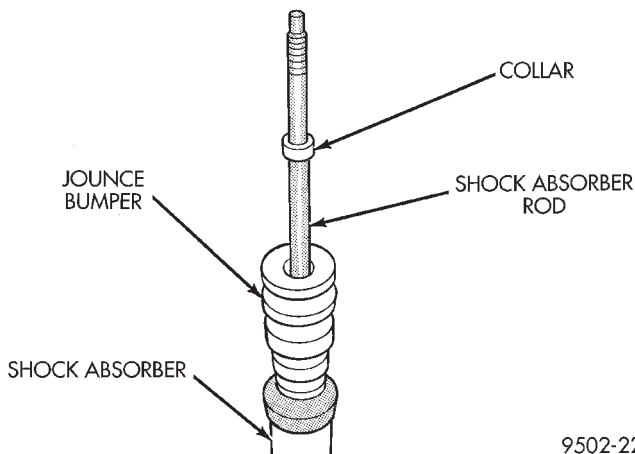

Fig. 61 Shock Absorber Jounce Bumper And Collar
NOTE: The collar (Fig. 61) can not be removed from the shock absorber rod. When removing the jounce bumper it will have to be carefully pulled over the collar.
(12) Remove the jounce bumper (Fig. 61) from the rod of the shock absorber assembly.